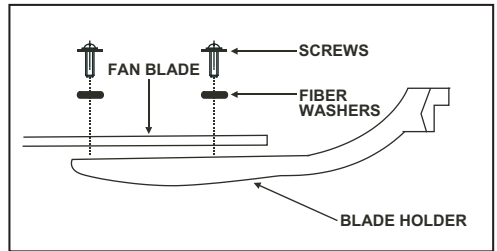

Fig. 15
Step 1. Attach the fan blade to the blade bracket using the screws provided. Tighten screws securely. Repeat for remaining blades. (Fig. 15)